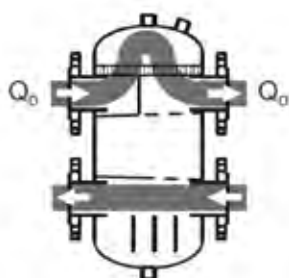

Fig 1
- Fig 1 – The flow rate in the primary circuit is the same as the flow rate in the secondary circuit. The quantity of heat delivered is the same as the quantity of heat received.